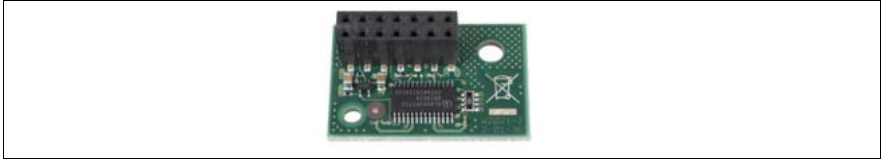

Figure 168: TPM board
- Only the TPM board is used from the available TPM installation kit, see figure 168.